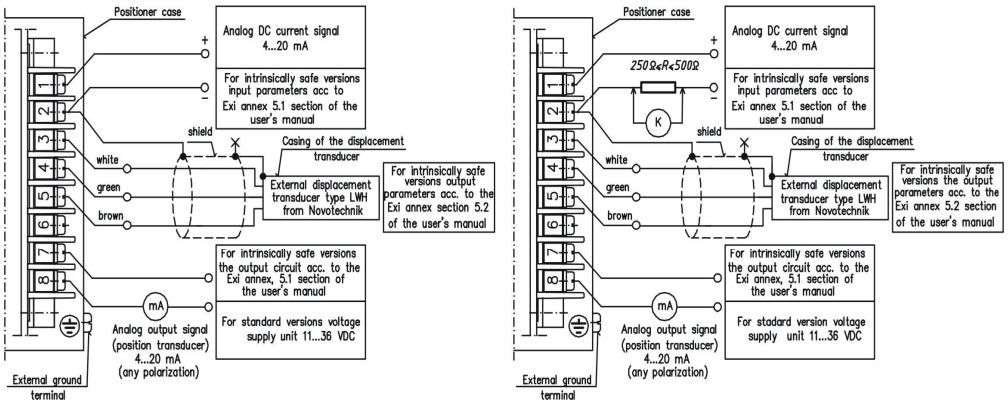

Fig. 21c Wiring of positioner for the executions with an external displacement transducer if:
- If the shield of the cable of potentiometer is connected galvanically to potentiometer's case (Fig. 21c) then the potentiometers case should not be grounded (in order to disrupt current loop).